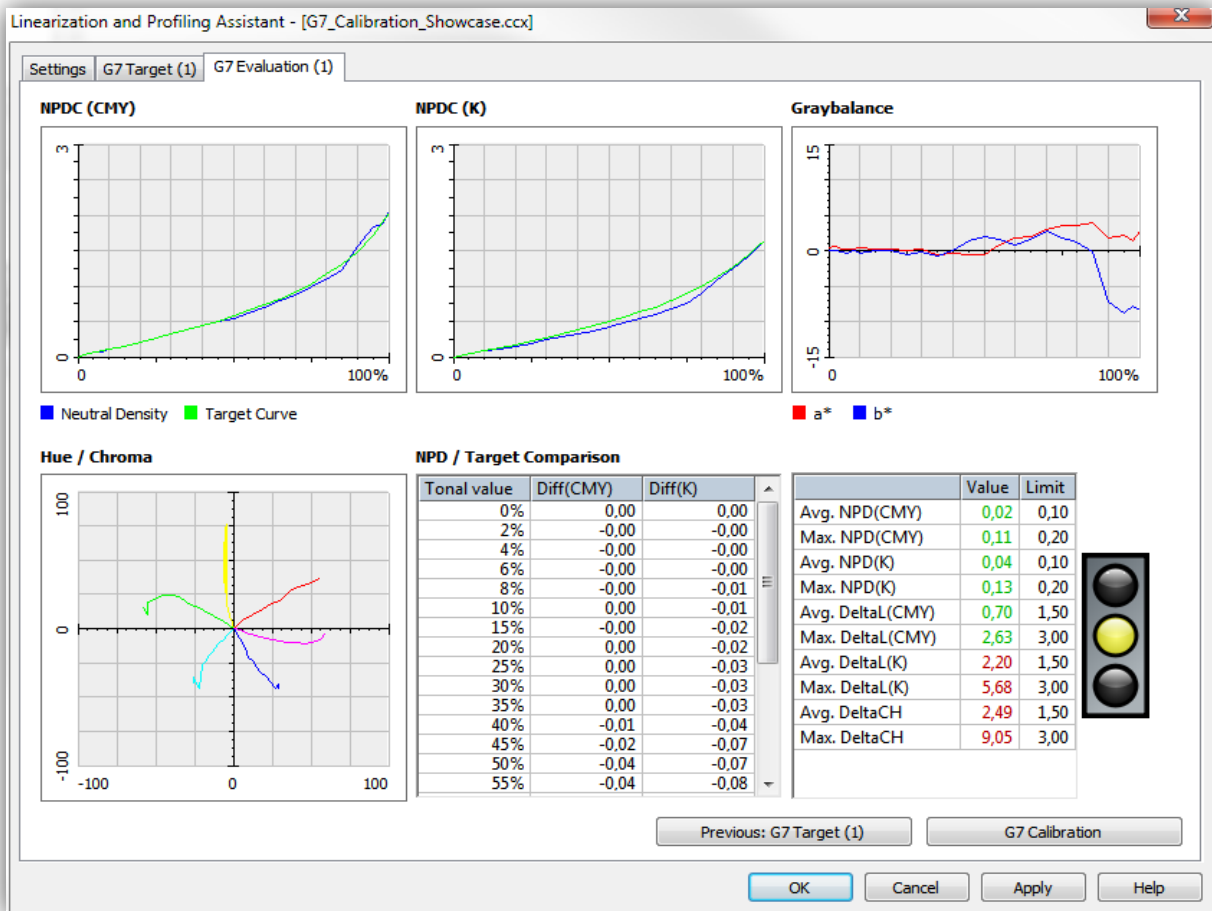

Fig.1 Initial target evaluation before curve correction
- Target evaluation is shown (*see Fig. 1 in Annex A*)